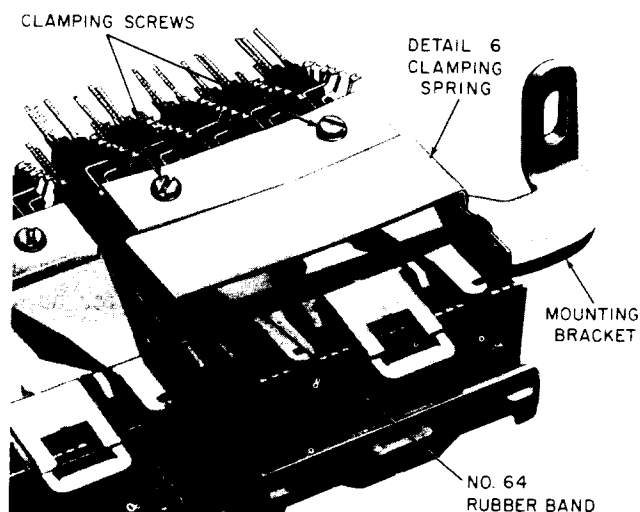

Fig. 20—Clamping Spring and No. 64 Rubber Band in Place on Half of Relay
3.57 Slip a clamping spring (detail 6) with the open side facing to the right over the defective unit and push back with screwdriver until clamping spring comes to rest against clamp plate, as shown in Fig. 20.
3.73 Slip a clamping spring (detail 6), with the open side facing to the right, over the replacement unit and push back with screwdriver until clamping spring rests against the clamp plate. See Fig. 20.